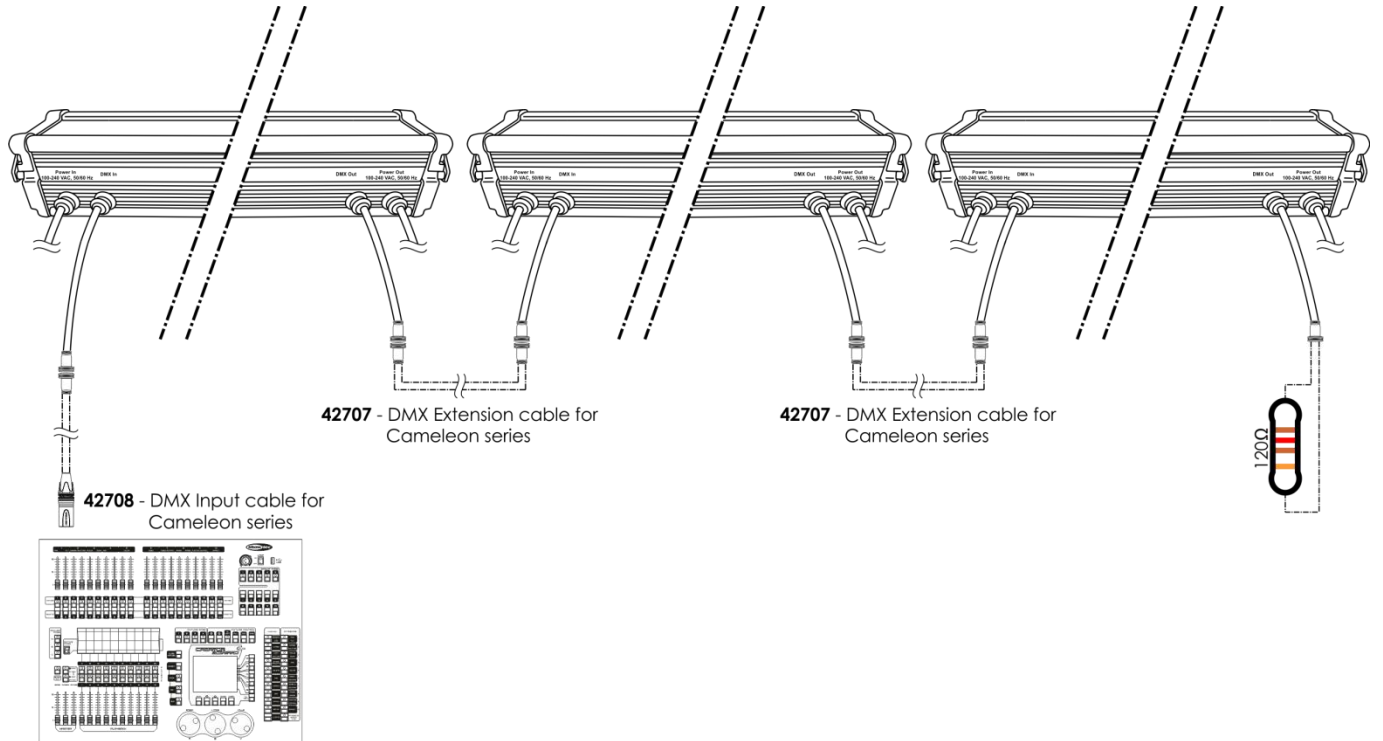

Fig. 04
- 04) Link the units as shown in fig. 04. Connect a light controller to the first unit's DMX "in" socket, using the **42708** – DMX input cable. Connect the first unit's "out" socket with the second unit's "in" socket, using the **42707** – DMX Extension cable, Link the second, third, and fourth units using the **42707** – DMX Extension cable.